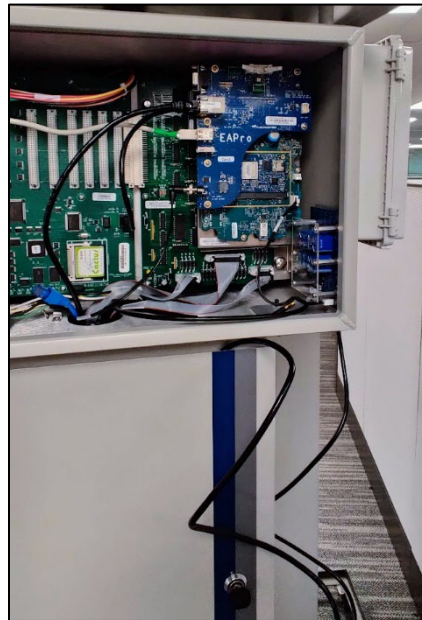

Figure 6 Running the MDU Ethernet Cable
4. Run the Ethernet cable up through the cabinet of the FMU and into the head such that you can close the door to keep a weathertight seal (Figure 6).